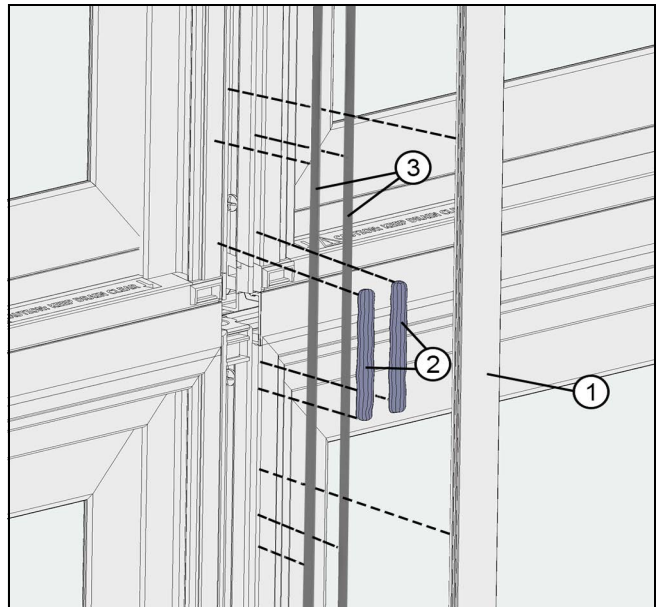

Figure 18
2. Mull and seal the two vertical sections together. Insert kerf weather strip continuously to lengths of kerf. Apply high performance silicone with a caulking gun to span the intersection area. Bead should be 2" long x 1/8" diameter. See Figure 18.